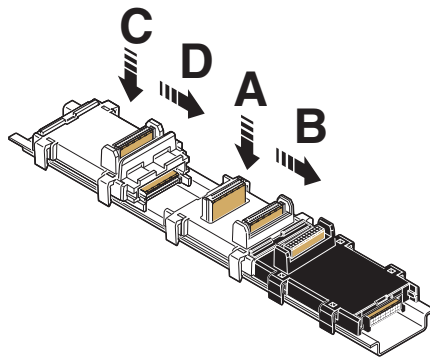

Figure 4-6 Mounting bus base module(s): AXC F 2152
When mounting the bus base modules, proceed as illustrated in Figure 4-6:
- Place the special bus base module for the AXC F 2152 on the DIN rail (A in Figure 4-6).
- Push the special bus base module for the AXC F 2152 into the connection for the bus base module of the module aligned to the right (B in Figure 4-6).
- Place the bus base module for the SPLC 1000 on the DIN rail (C in Figure 4-6).
- Push the bus base module for the SPLC 1000 into the connection of the special bus base module for the AXC F 2152 (D in Figure 4-6).